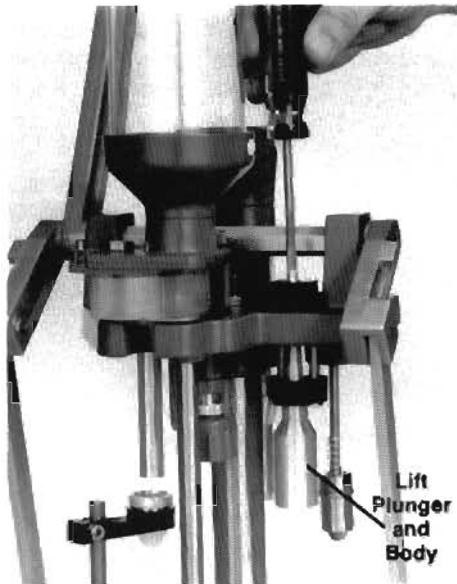

Fig. 52
**Figure 52** - Push the die body and plunger upward, bringing the lower brackets up to the bottom of the diehead. Using a narrow flat blade screwdriver, turn the top of the plunger so as to engage its threads in the diehead. Screw the plunger all the way up. Don't tighten the lock nut until final adjustments are made.